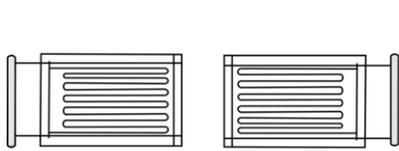
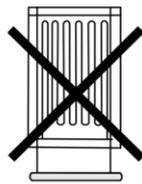

figure 1a/рисунок 1a
figure 1b/рисунок 1b
1. Heaters/preheaters can be installed in any position (look at figure 1a) except electrical connection box downward. It is not recommend to install the heater, when electrical connection box upward (look at figure 1b).